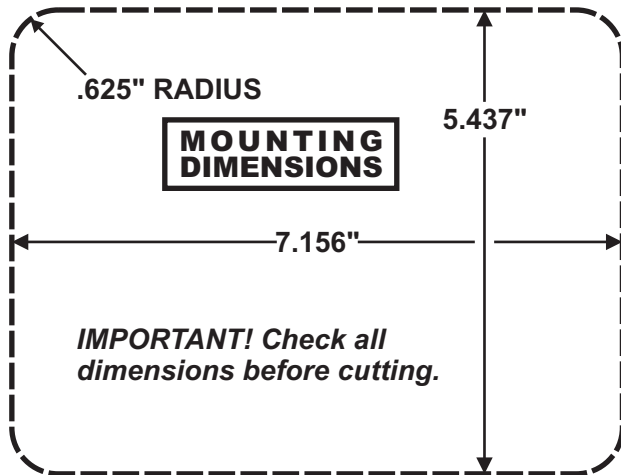

FIG. 1
3. Feed the lamp assembly wires through the hole in the reflector as shown in Fig. 1. The WHITE wire is ground (-), the BLACK wire is for high power operation (35 watts) 12 VDC, and the RED wire is for low power operation (14 watts) 12 VDC. Use appropriate wire connectors.